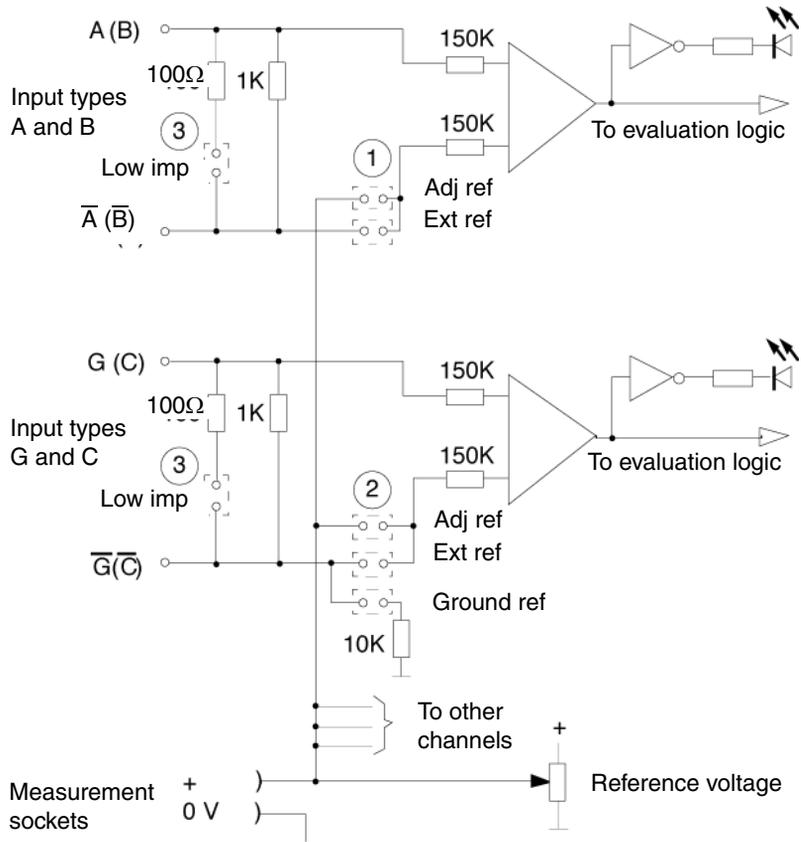
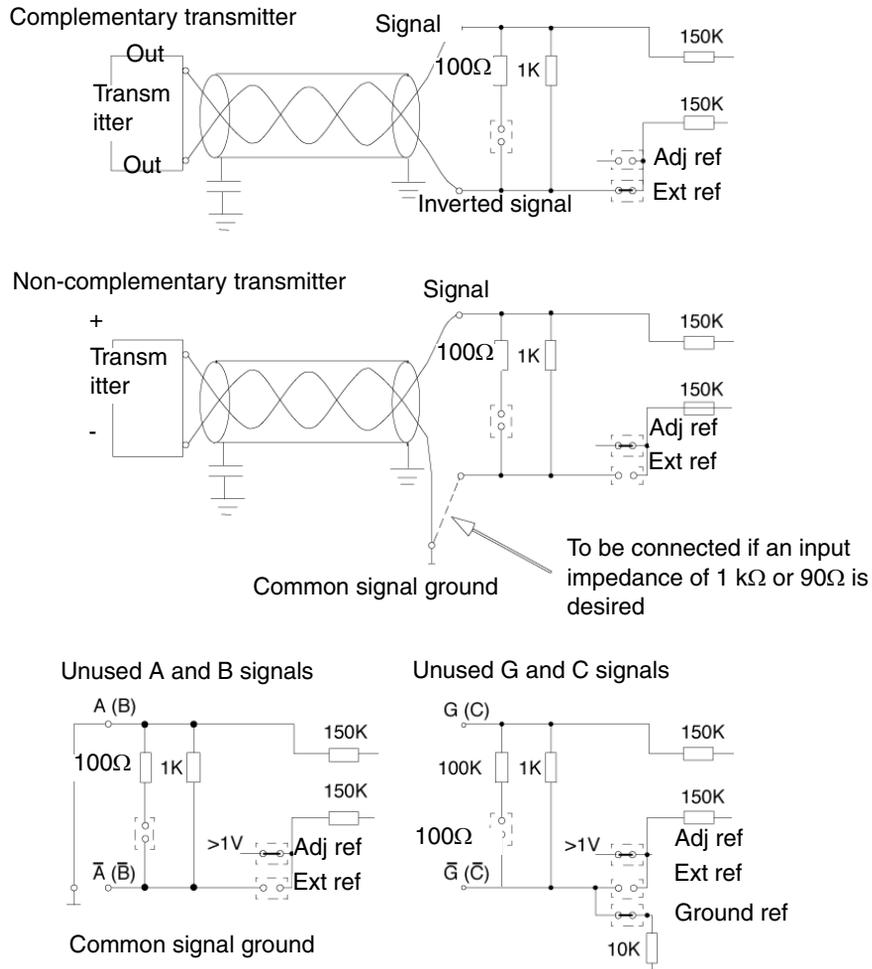

Figure 103. Input circuits, block diagram
Figure 104. Cable connection
For complementary transmitters, the jumpers (1) or (2) must be in the position Ext. ref (see Figure 103 on page 143 and Figure 104 on page 148), and the logic status is changed when the input signal and its inverse change polarity.
For non-complementary transmitters, the input signal is compared with the common reference voltage, which can be measured across the sockets on the front panel and adjusted by means of the potentiometer. The corresponding jumper (1) or (2) must be in the position Adj ref. The transmitter signal is connected between input A (or B, G, C) and the signal ground of the rack system. If the inverted signal input (\overline{A} , \overline{B} , \overline{G} or \overline{C}) is left unconnected, maximal input impedance is obtained (see Figure 103 and Figure 104).
The input impedance can be matched to the output impedance of the transmitters by means of the jumpers (3). Closing the jumper changes the impedance from 1 k Ω to about 90 Ω . If one of these input values is desired for non-complementary transmitters, the inverted input (\overline{A} , \overline{B} , \overline{G} or \overline{C}) should be connected to the signal ground (see Figure 104).
All unused A and B inputs must be connected directly to the signal ground. If inputs A and B are left unconnected, the jumpers Adj ref are closed and the reference voltage is adjusted to > +1 V, the comparator will not generate pulses due to electrical noise (see Figure 104).
Unused inputs G, \overline{G} , C and \overline{C} can be left unconnected if the jumpers (2) Adj ref and Ground ref are closed and the reference voltage is adjusted to > +1V (see Figure 104).